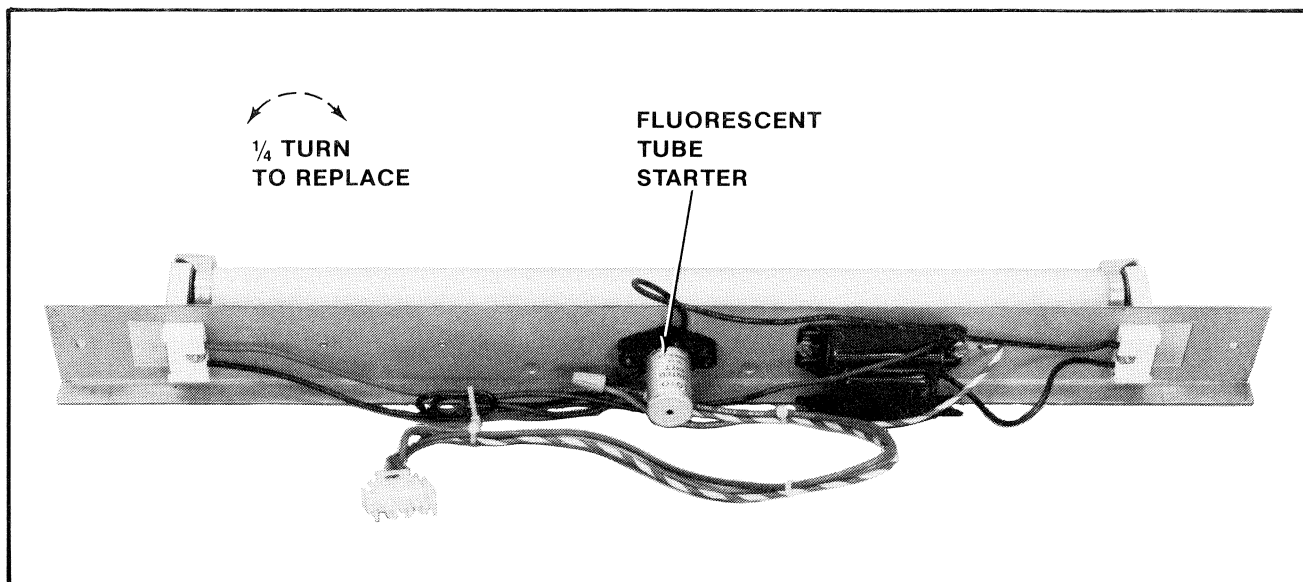

Figure 21 Replacing fluorescent starter — Upright game
- Replacing the fluorescent tube starter. See Figure 21.